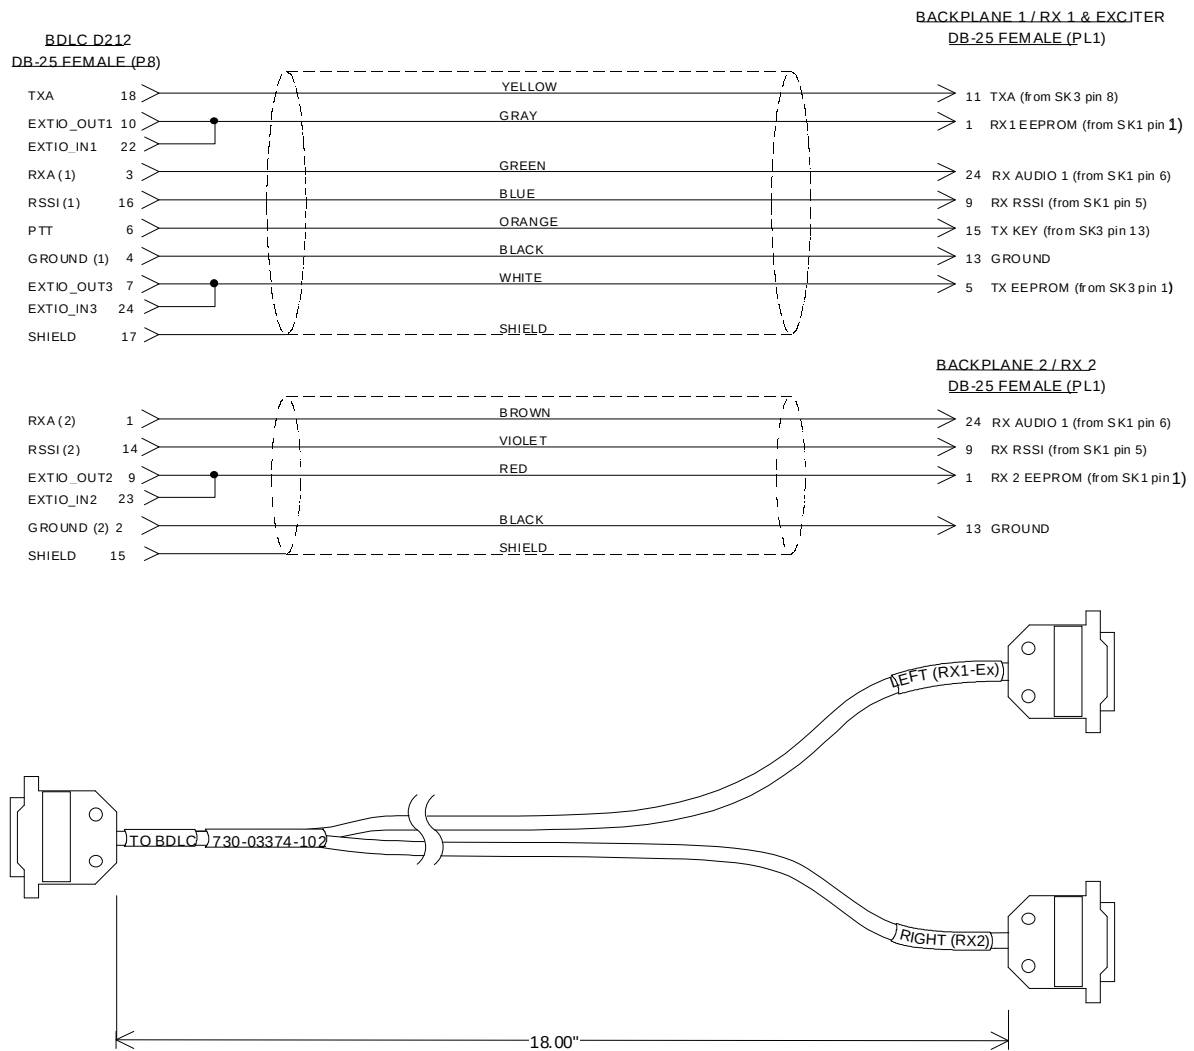

Figure 15 - BDLC^{PD+} Y cable and pinout
- EXT RADIO/TEST - connects to the Radio assembly through the radio interface cable (see Figure 15)